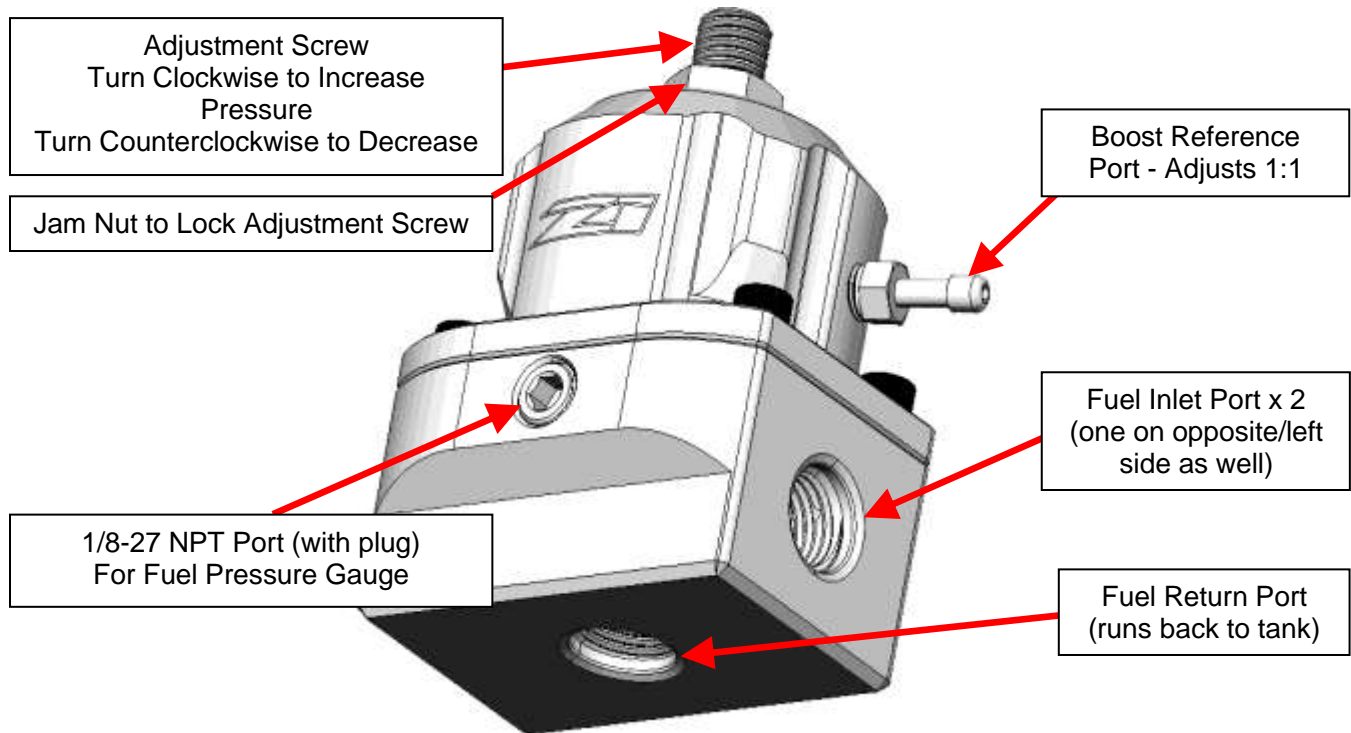

Figure 34
1. Your Z1 Fuel Pressure Regulator will arrive mostly assembled except for the Orb fittings/plugs for the Fuel Lines. *Figure 34* below shows the regulator and what each component/port is used for: